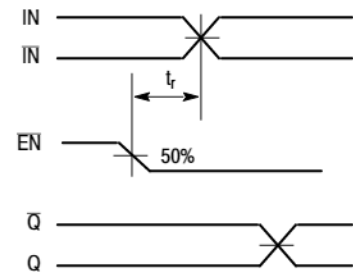

Figure 5. Release Time
7. The release time is the minimum time that  $\overline{EN}$  must be deasserted prior to the next IN/ $\overline{IN}$  transition to ensure an output response that meets the specified IN to Q propagation delay and output transition times (Figure 5).
- The release time is the minimum time that  $\overline{EN}$  must be deasserted prior to the next  $\overline{IN}/\overline{IN}$  transition to ensure an output response that meets the specified  $\overline{IN}$  to Q propagation delay and output transition times (Figure 5).